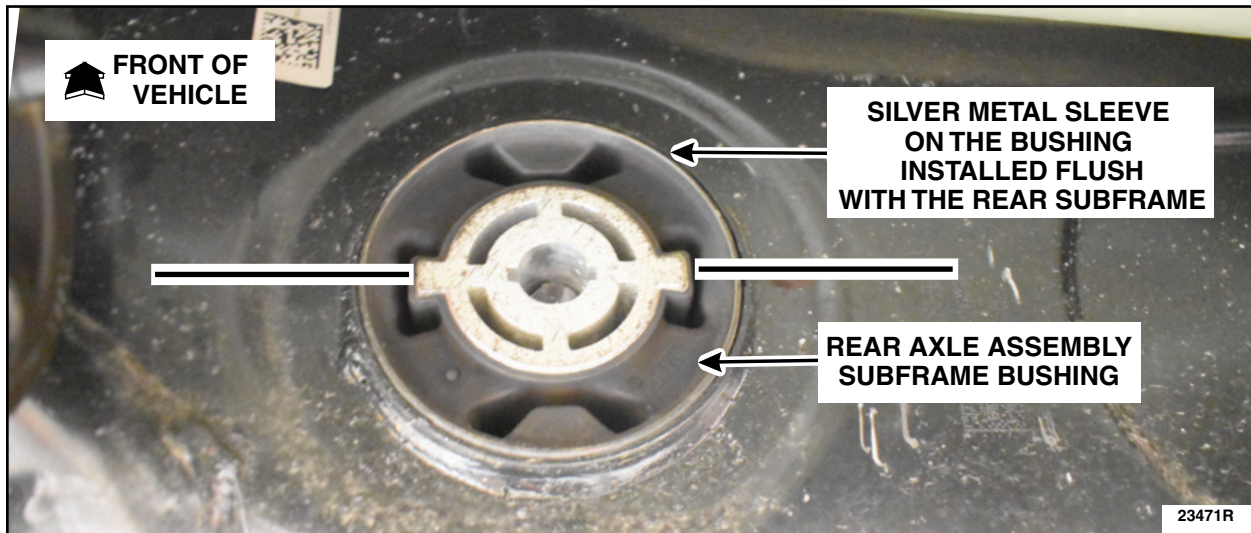

FIGURE 17
NOTICE: Make sure the tabs on the new rear axle assembly subframe bushing are horizontal with the subframe. See Figure 17.
25. Using the ESST tools listed below, install the *new* rear axle assembly subframe bushing. See Figures 17 and 18.